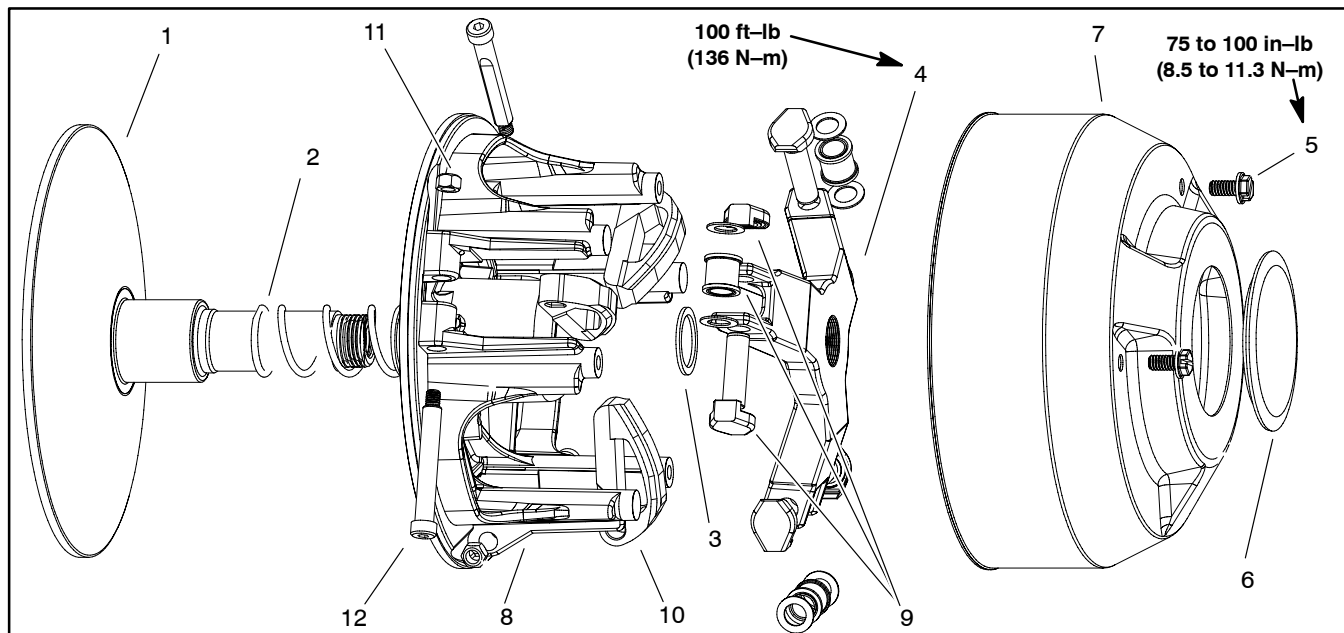

Figure 9
Disassembly (Fig. 9)
6. Disassemble clutch as needed using Figure 9 as a guide.
Assembly (Fig. 9)